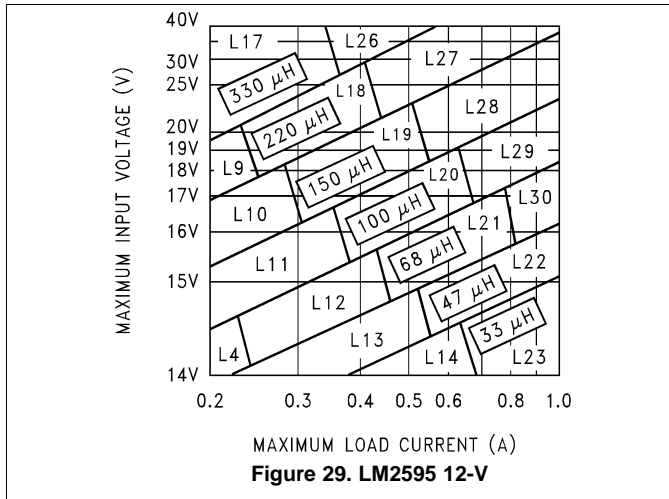

Figure 29. LM2595 12-V
1. Select the correct inductor value selection guide from Figure 27, Figure 28, or Figure 29 (output voltages of 3.3 V, 5 V, or 12 V respectively).